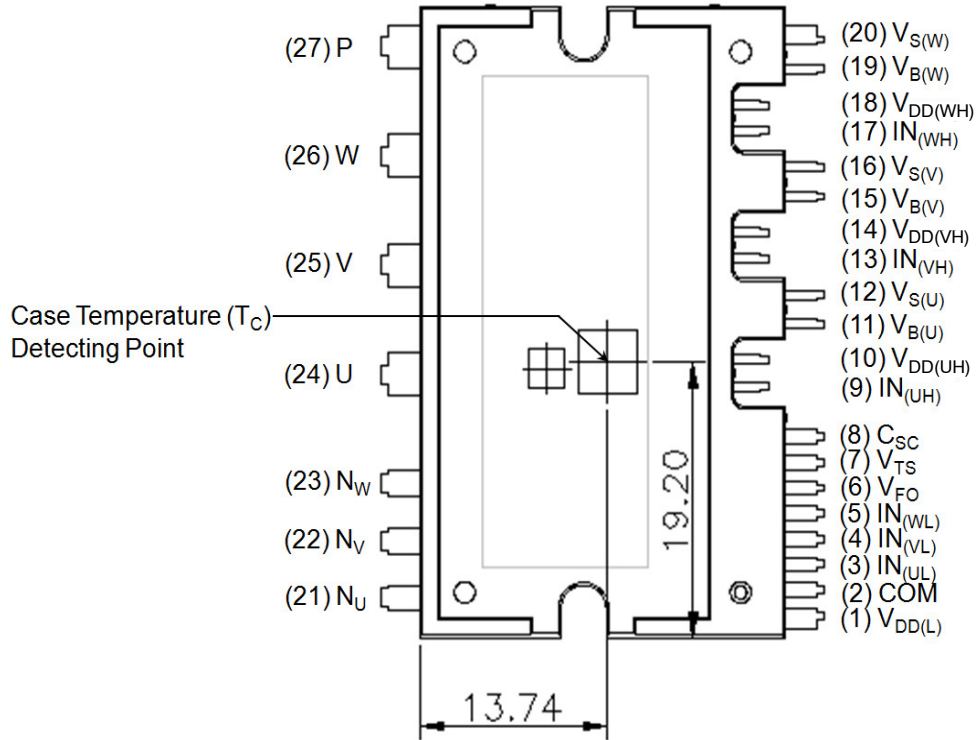

Figure 1. Top View
4. For the measurement point of case temperature (T_C), please refer to Figure 1. DBC discoloration and Picker Circle Printing allowed, please refer to application note AN–9190 (Impact of DBC Oxidation on SPM® Module Performance).